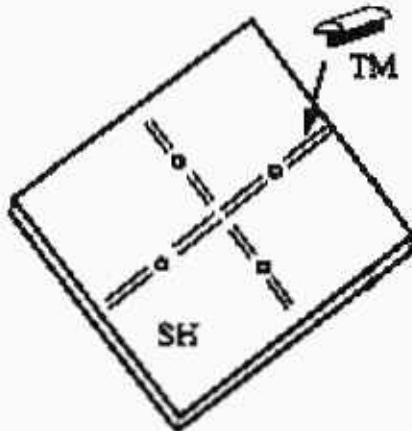

Figure 3
Install (8) T Moldings "TM" into each of shelves "SH" as shown below (Figure 3). Place shelf on a sturdy surface, such as the floor. Place each "TM" up to, but not covering the holes in the shelves and tap **firmly** into grooves (using a hammer). Set the shelves aside for later use.